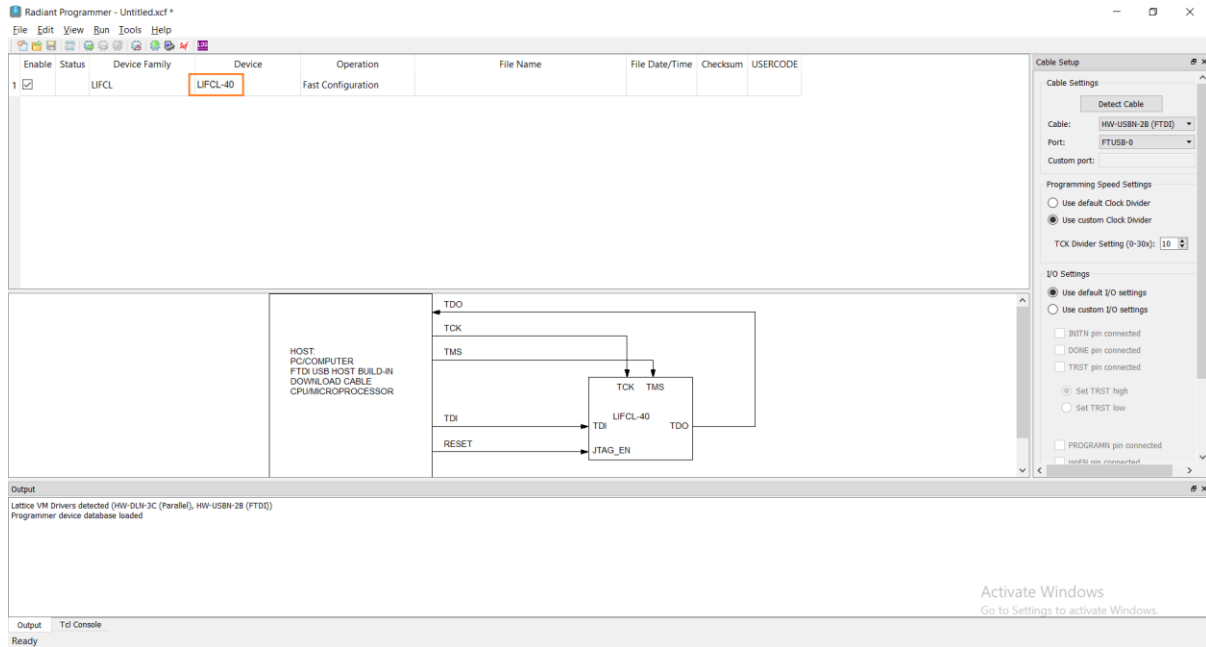

Figure 5.7. Lattice Radiant Programmer Window
4. The main interface opens as shown in Figure 5.7.